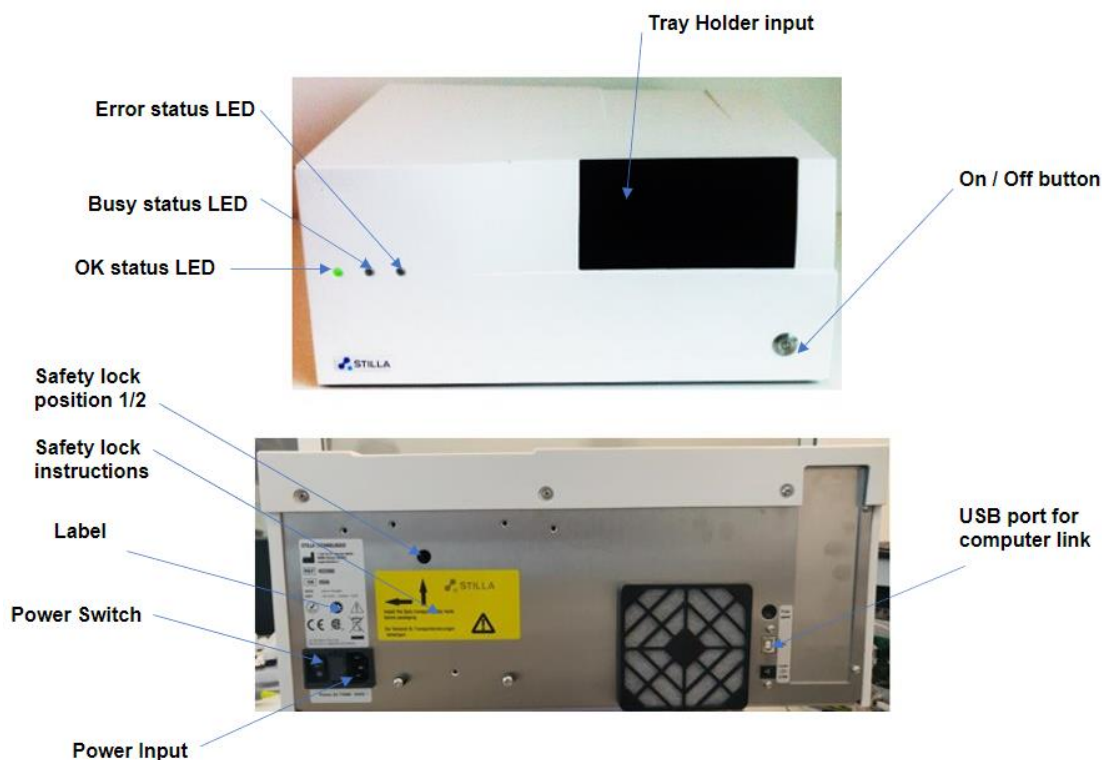

Figure 2: Front and back view of the Prism3 instrument.
- First, switch on the power button located at the back of the Prism3, then turn on the power button in the front. Wait for initialization (the left-most light on the front LED panel of the Prism3 should be green, Figure 2).